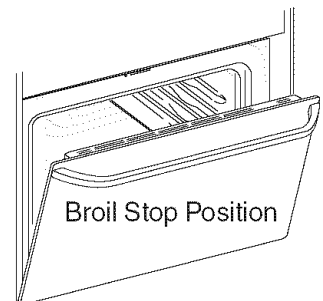

Figure 2
5. Place the pan on the oven rack. **Open the oven door to the broil stop position** (See Fig. 2).